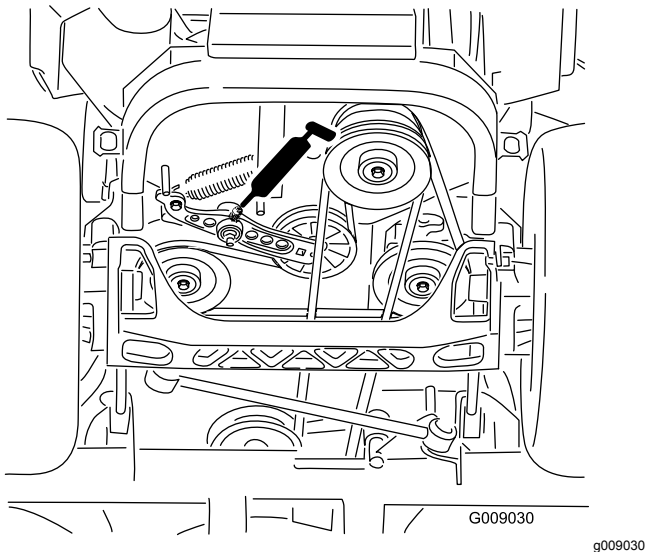

Figure 46
4. Grease the drive-belt-idler arm (Figure 46).